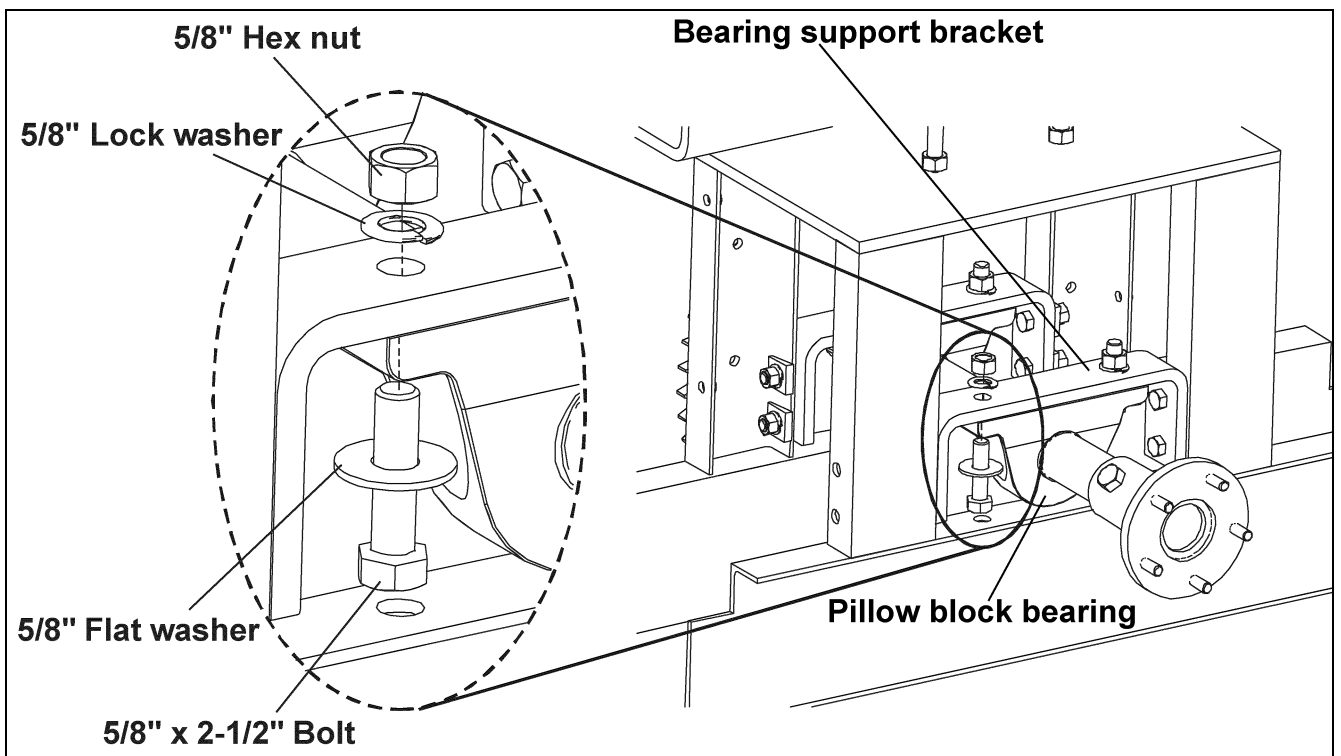

Figure 5L
F. Attach pillow block bearings to the bearing support brackets using 5/8" x 2-1/2" bolts, 5/8" lock and flat washers, and 5/8" hex nuts. (See Figure 5L)